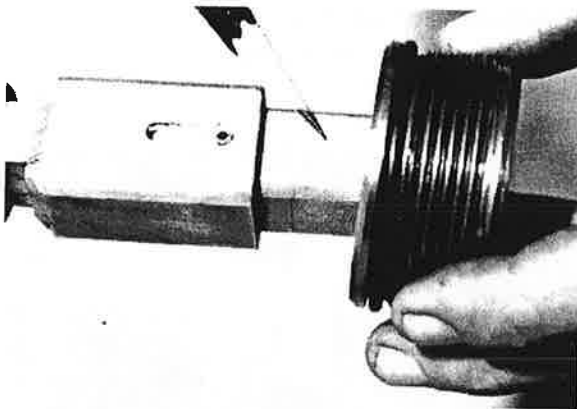

Figure 58. Position Plug
E. Figure 58 shows alignment of plug on plug-holder.